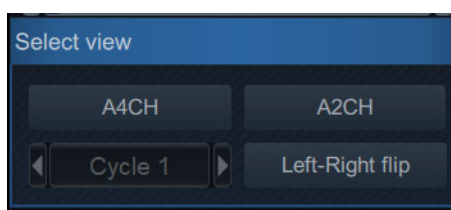

Figure 8-21. Select View stage
2. Select *AutoEF* in the Measure menu. The tool will launch and start up in the *Select View* stage (See Figure 8-21).